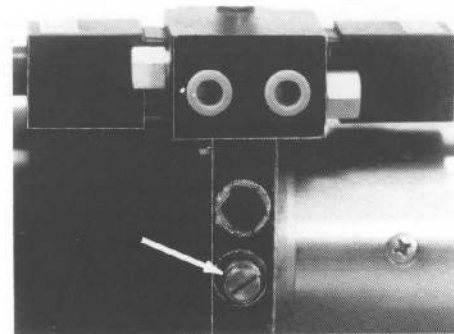

Figure 1-2
2. The slotted screw underneath the cap is for adjusting the relief valve pressure setting. Turning the screw clockwise increases the pressure and turning the screw counterclockwise decreases the pressure. Adjust pressure to relieve at 1750 PSI. See Figure 1-2.
3. Ensure the hex cap threads and O-ring are clean and serviceable and re-install cap. See Figure 1-2.